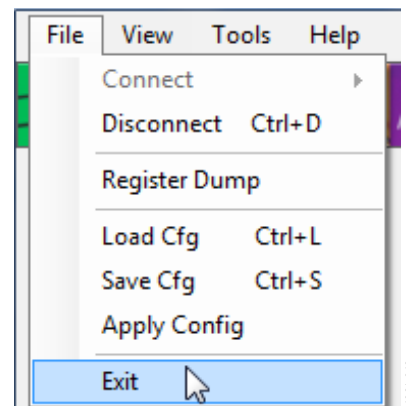

Figure 52. Exit
2. Exit via **File > Exit**, as shown in Figure 52.